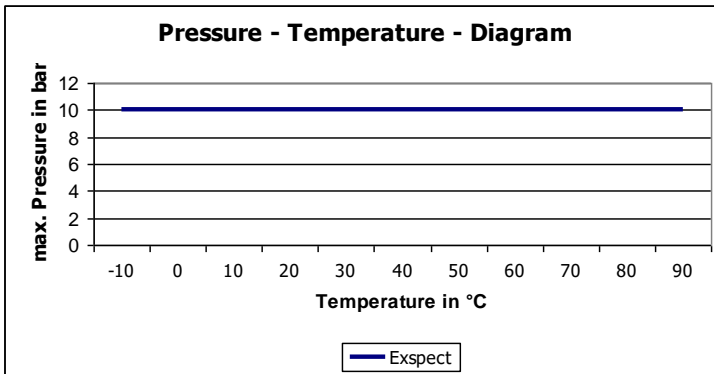

Fig. 2: EXspect 231 pressure-temperature diagram
4. Weld the parts between the 4 points (Fig. 2 below)